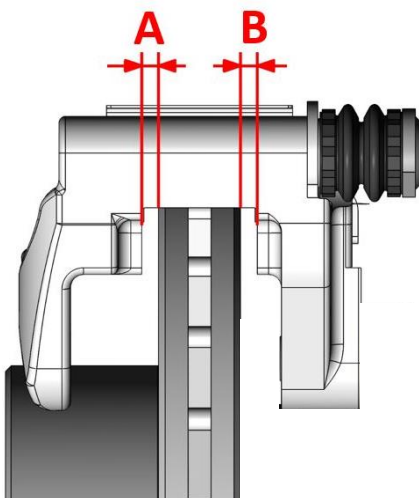

Figure 7a – Caliper Anchor Bracket Measuring Location
10. Depending on original manufacturing tolerances, shimming of the Caliper Anchor Bracket may be required. To determine if shimming is necessary, measure between the Caliper Anchor Bracket and the brake rotor at both the outside and inside surface. See Figure 7a below for the measuring locations. Both measurements should be within .010" of each other. If they are not, using Figure 7b below for an example, calculate the necessary shim thickness. If they are not, remove the two M12-1.75 x 35mm Hex Head Bolts and place the appropriate shims between the Aluminum Caliper Mounting Bracket and the Caliper Anchor Bracket. Figure 7c below shows the proper location of the shims. With the shims installed and the Caliper Anchor Bracket centered over the rotor, torque the M12-1.75 x 35mm Hex Head Bolts to 80 lb/ft.